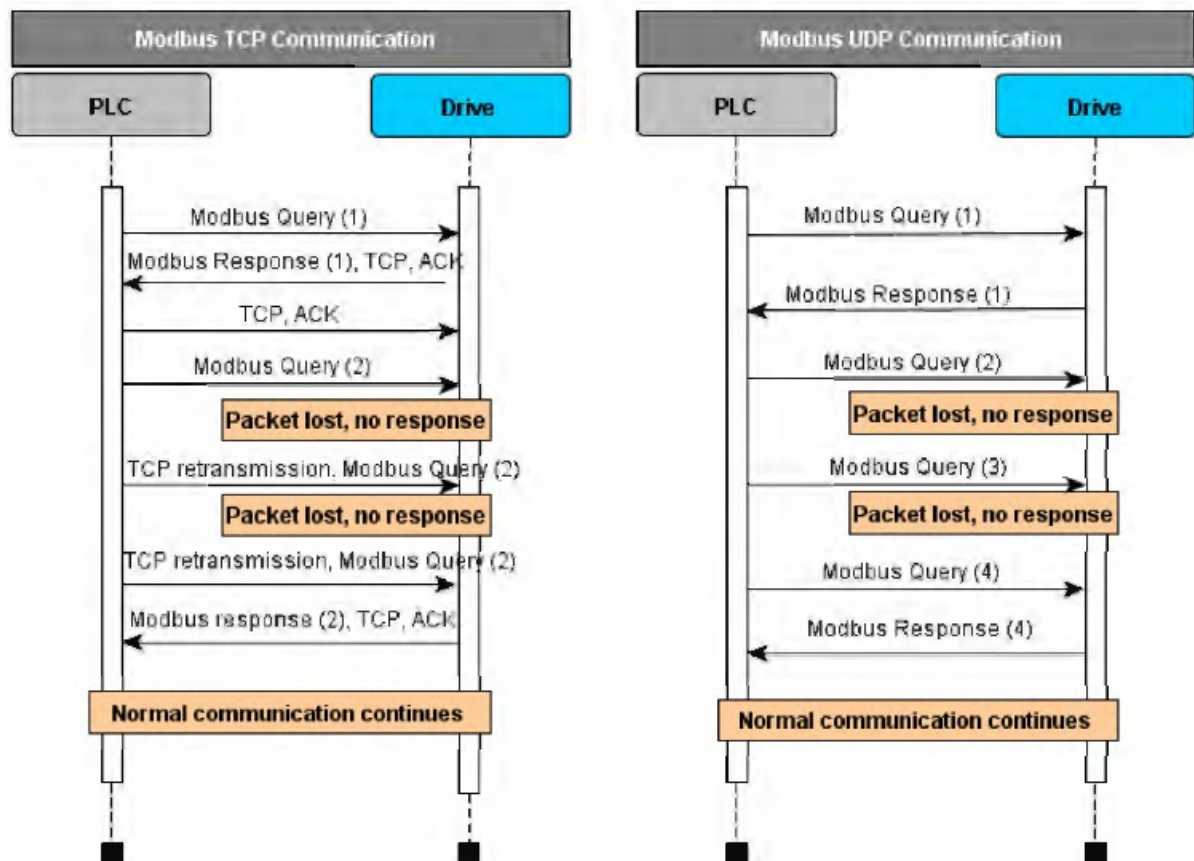

Figure 5-3. Modbus TCP and UDP communication errors comparison
- When using UDP it is not guaranteed that the sent frame reaches its destination. PLC must keep track of the Modbus requests by using the Modbus transaction id-field. It actually must do this also when using TCP. If PLC does not receive response in time from drive in UDP connection, it needs to send the query again. When using TCP, the TCP/IP stack will keep resending the request until it has been acknowledged by the receiver (see Figure 5-3. Modbus TCP and UDP communication errors comparison). If PLC sends new queries during this time, some of those may not be sent to network [by TCP/IP stack) until previously sent package(s) has been acknowledged. This can cause small packet storms when the connection is resumed between PLC and drive